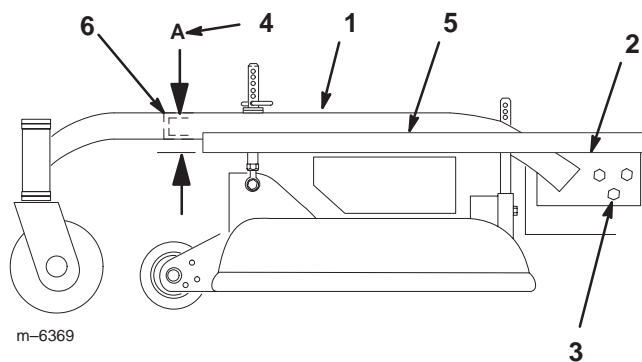

Figure 45
- Place a long straight edge on top of the engine deck as shown in figure 45.
- At the carrier frame cross tube, measure location **A** height (Fig. 45). This measurement must be 1-5/16 inch (33 mm), plus or minus a 1/4 inch (6 mm).
- Loosen the carrier frame mounting bolts on both sides of the machine (Fig. 45).
- Align the carrier frame and engine deck to match 1-5/16 inch (33 mm), plus or minus a 1/4 inch (6 mm) at location **A** (Fig. 45).